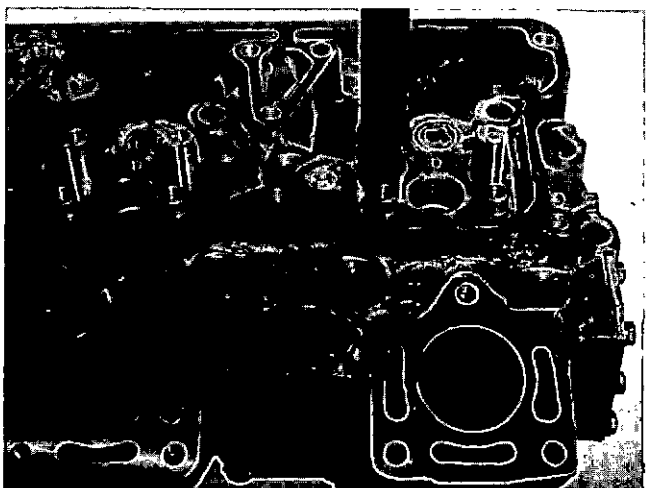

Fig. 2-4-2, V40235. Install crosshead guide
2. Press in new guides with ST-633 Crosshead Guide Mandrel, Fig. 2-4-2.